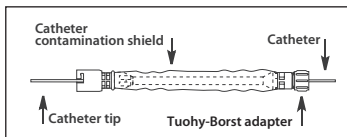

Figure 1
- a. If using a catheter contamination shield with Tuohy-Borst adapter, insert tip of desired catheter through Tuohy-Borst adapter end of catheter contamination shield. Advance catheter through tubing and hub at other end (refer to Figure 1).